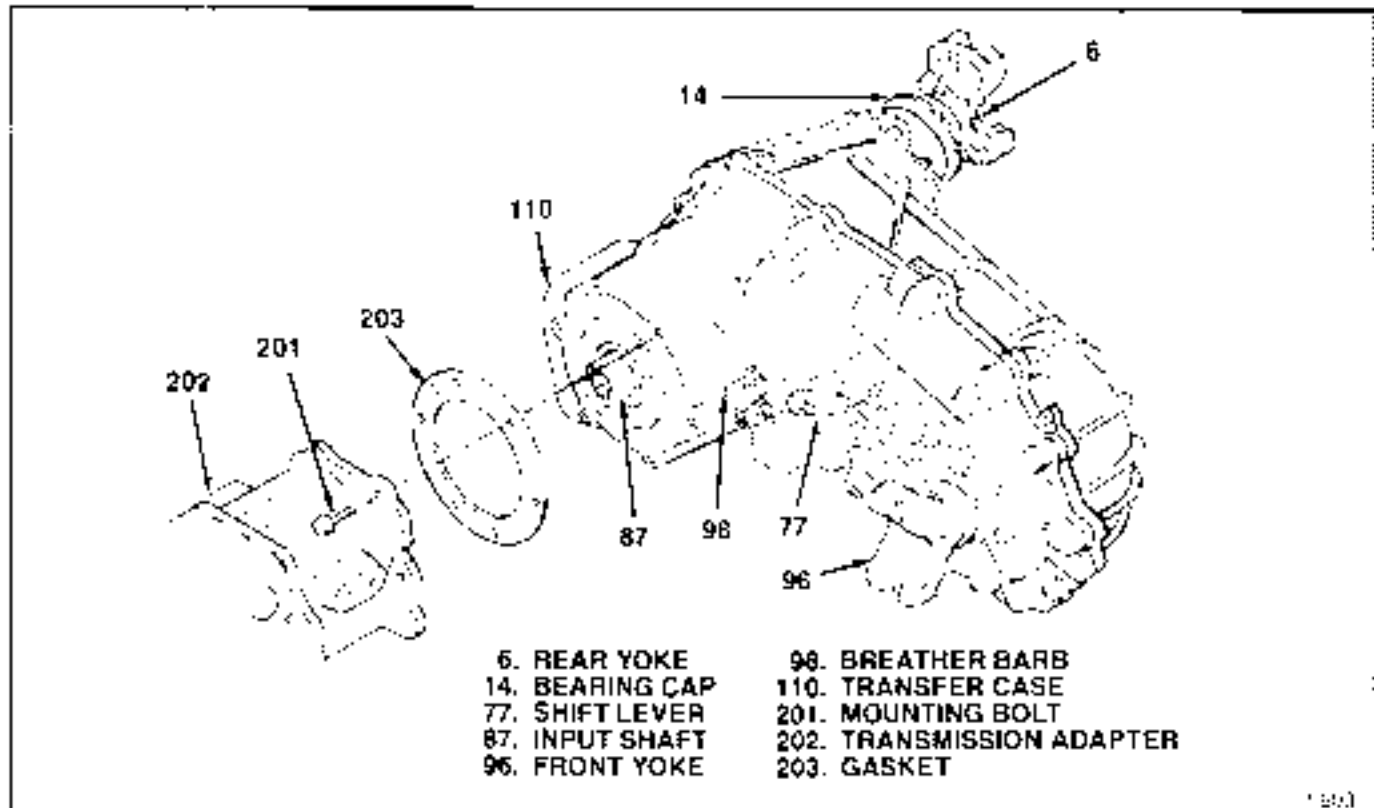

Figure 2-2. Transfer Case Installation.
**2-11. REMOVAL OF TRANSFER CASE.** Refer to the vehicle service manual for specific instructions regarding supports, skid plates, shift linkage, wiring harness, speedometer cable, power take-off and other components related to the transfer case installation. These may need to be removed to provide access to the transfer case. A suitable hoist for the vehicle and a jack or stand for the transfer case will be required. The jack or stand must be capable of completely and independently supporting the transfer case. It also must be able to lower, raise and move the transfer case laterally. Proceed as follows (see figure 2-2):
Refer to the vehicle service manual for specific instructions regarding supports, skid plates, shift linkage, wiring harness, speedometer cable, power take-off and other components which were removed to provide access to transfer case. With vehicle on hoist and transfer case on a suitable jack or stand, proceed as follows (see figure 2-2):
d. Carefully move transfer case forward, engaging spline on transmission and dowel pin, until mounting face of transfer case (110), gasket (203) and transmission adapter (202) are in contact.
e. Make sure mounting holes in transfer case (110), gasket (203) and transmission adapter (202) are aligned and install six mounting bolts (201). Torque mounting bolts to 25-43 lb ft (34-58 Nm) in sequence shown in figure 2-2.
f. Connect rear driveshaft to transfer case rear yoke (6) or spline.
g. Connect front driveshaft to transfer case front yoke (96).
h. Connect breather hose to transfer case breather barb (98).
i. Connect speedometer cable at transfer case bearing cap (14).
j. On mechanical shift units, connect shift linkage to transfer case shift lever (77).